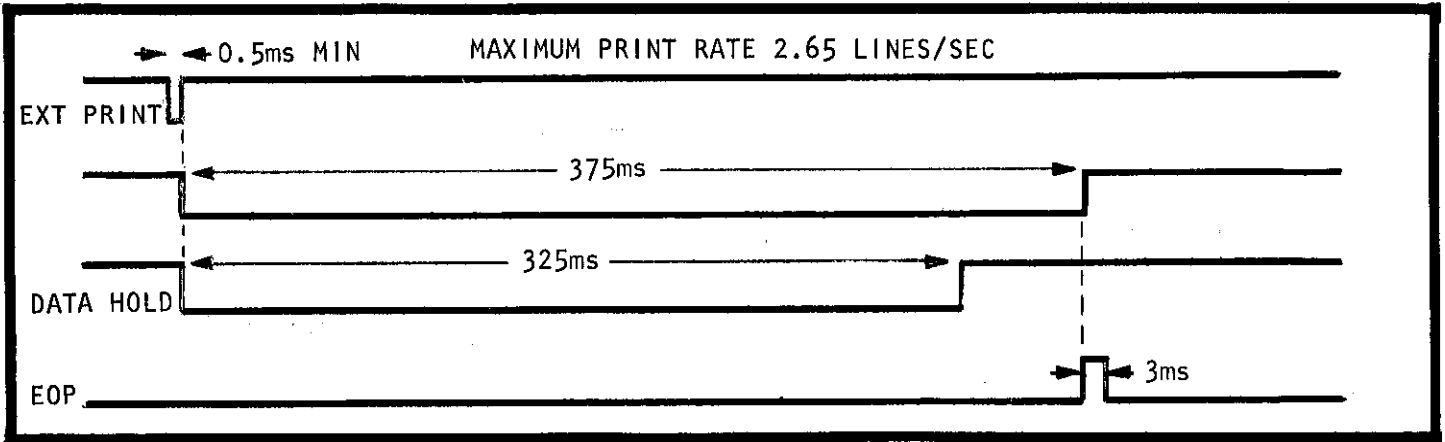

FIGURE 7. Timing For External Print Command.
4. EXTERNAL PRINT Command (Pin 42). An input transition from Logic '0' to Logic '1' causes a print command in the Model 750. Sinking current for Logic '0' is 4.2 milliamperes. See Figure 7 for timing considerations.
1. EOP (End of Print, Pin 16). This output provides a Logic "1" for a duration of 3 millisecond. The timing for this output is shown in Figure 7. This output has a loading factor of 8 TTL inputs.